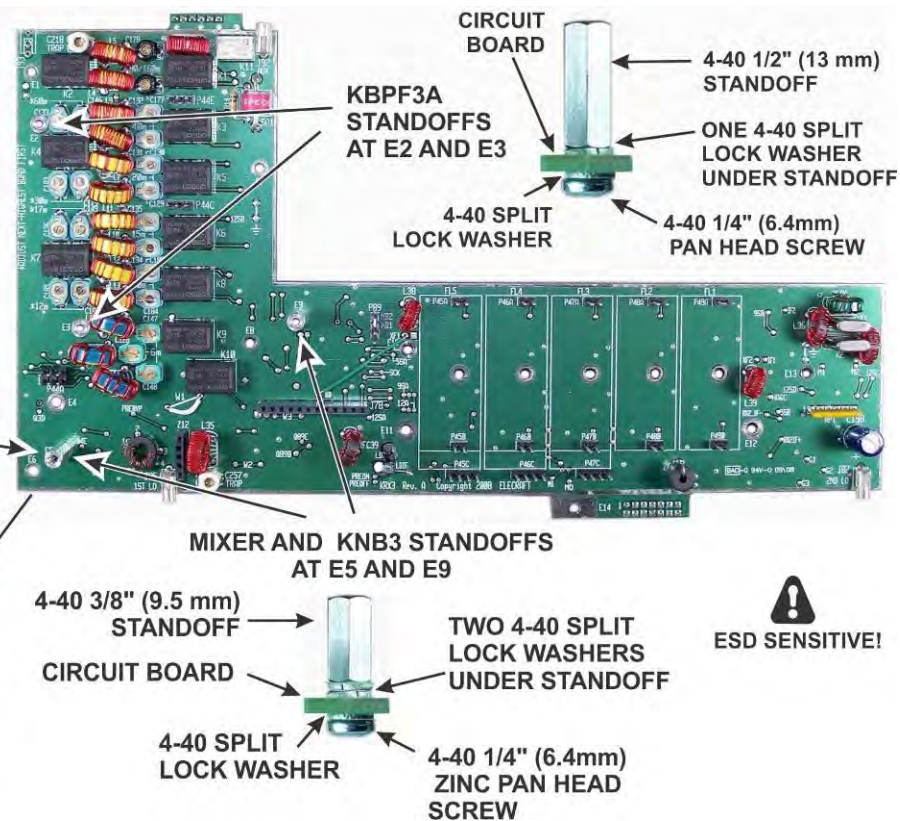
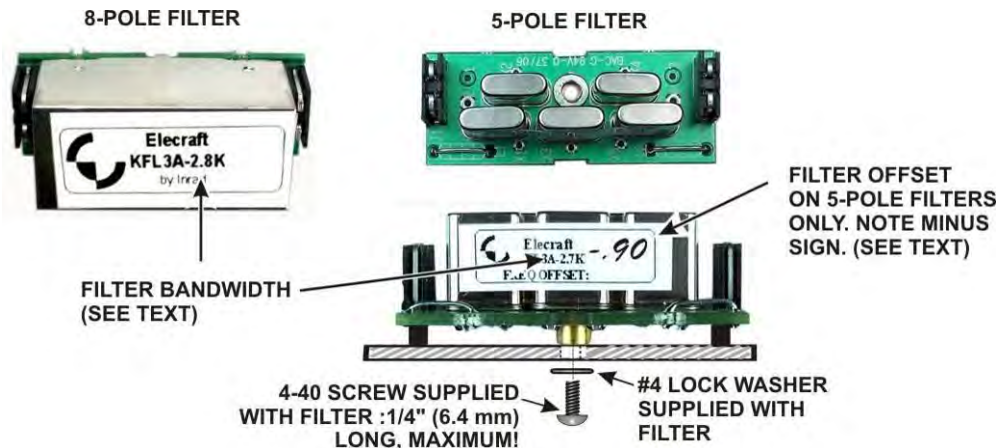
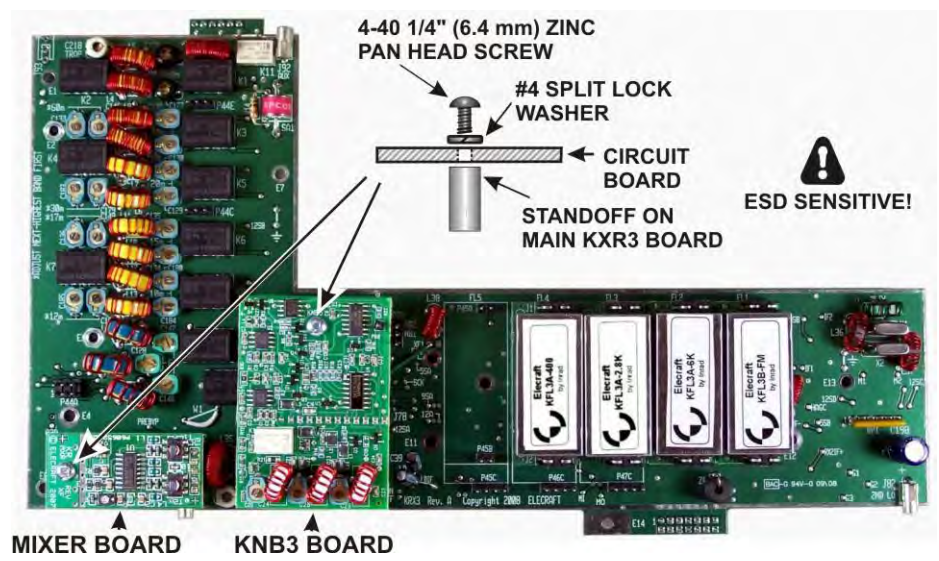

Figure 37. Installing Standoffs on the KRX3A Main PC Board.
Figure 38. Installing Crystal I.F. Filters.
Figure 39, Main KRX3A Board Ready for Installation.
Install four standoffs on the KRX3A main circuit board as shown in Figure 37. Be careful to use the correct length standoff and the exact combination of washers shown in each location, and carefully follow the instructions for installing the standoff at E5 to avoid damaging the board.
- Check to ensure that you installed all four standoffs exactly as shown in Figure 37 above.
- Locate the crystal I.F. filters. Two types of filters are available: standard 5-pole filters and optional 8-pole filters (see Figure 38). One standard 5-pole 2.7 kHz filter is supplied. If you have elected to equip your K3S or K3 with the optional 8-pole 2.8 kHz filter, it has been supplied instead of the 2.7 kHz filter. If you have purchased additional filters, they may be installed now as well. If you plan to add filters later, spaces may be left for them. For example, if you plan to add the FM or a 6 kHz AM filter later, you can leave spaces FL1 and FL2 open for them and install the 2.8 kHz filter in position FL3. The filters are not hard to move about later, so if you aren't sure, install the widest at FL1, the next widest at FL2 and so on.
Install the filters on the KRX3A board as shown in Figure 38. Use the screw and lock washer supplied with each filter. Refer to the list of filters you created in Table 1 to ensure each filter is installed in the proper position. Four of a possible five filters are shown installed on the KRX3A board in Figure 39.
□ Mount the Mixer and KNB3 boards on the main KRX3A board as shown in Figure 39. Be certain the connector on each board is properly aligned and mated with the connector on the main KRX3A board. The boards should be parallel to the KRX3A board. If they are tilted, check to ensure the correct number of washers were installed under the standoffs and that you used the correct standoffs as shown in Figure 37.